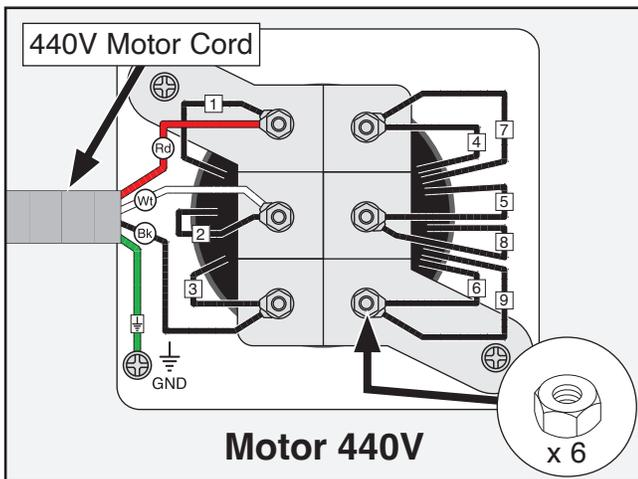

Figure 21. Location of 440V motor cord connections.
21. Route 440V motor cord through strain relief and connect to terminals shown in **Figure 21**.
22. Install (6) hex nuts removed in **Step 18** on terminals and tighten to secure, as shown in **Figure 21**.